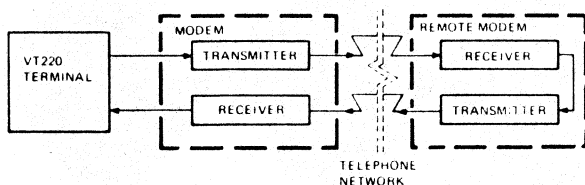

Figure 1-5 Remote Loop Test
After you make a connection with a remote modem (another VT22X, a Digital DF03, or an AT&T 212A with the Response to Digital Loop option enabled), pressing the **REMOTE LOOP** pushbutton on the *local* VT22X modem sends a signal that places the *remote* modem in a loopback state. The **TEST** indicator on the local modem will turn on. At this point, any data typed on the local VT220 keyboard is sent to the remote modem and looped back (Figure 1-5). Then you can check the data for accuracy. Run the remote loop test as follows.
8. Type a message on your keyboard. The data you type is sent to the remote modem. Then the data is looped back from the remote modem and displayed on your terminal (Figure 1-5). You can compare the received data with the transmitted data for accuracy.